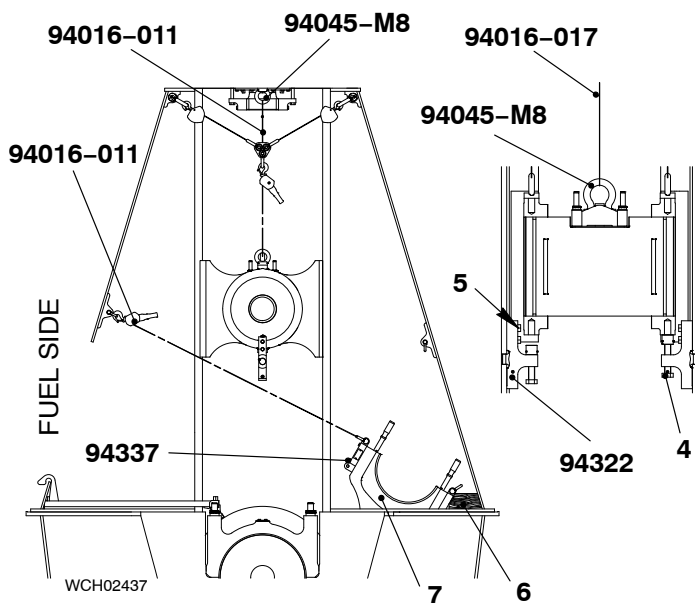

Fig. 13
22) Attach the two supports (94322, Fig. 13) to the guide way.
23) Torque the four bolts (5) to 300 Nm.
24) Tighten the two set screws (4).
25) Attach the two manual ratchets (94016 011) to the shackles (94018B) and the lifting tools (94337) on the connecting rod (7).